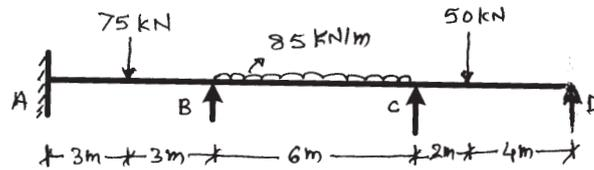

Figure 7
b) Analyse the continuous beam shown in figure 7 by Flexibility Matrix Method and draw BMD, SFD and elastic curve. [12]